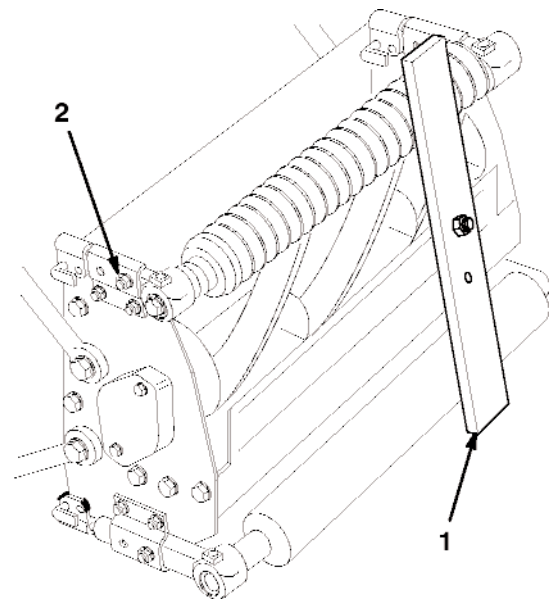

Figure 7
- Slightly loosen the nut securing each front roller bracket to the angle bracket (Fig. 7).
4. Place the bar across the front and rear rollers and adjust the front roller support screws until the underside of the screw head engages the bedknife cutting edge (Fig. 7). Do this on both ends of reel. Make sure the rollers are free of debris and/or distortions on the roller surfaces.